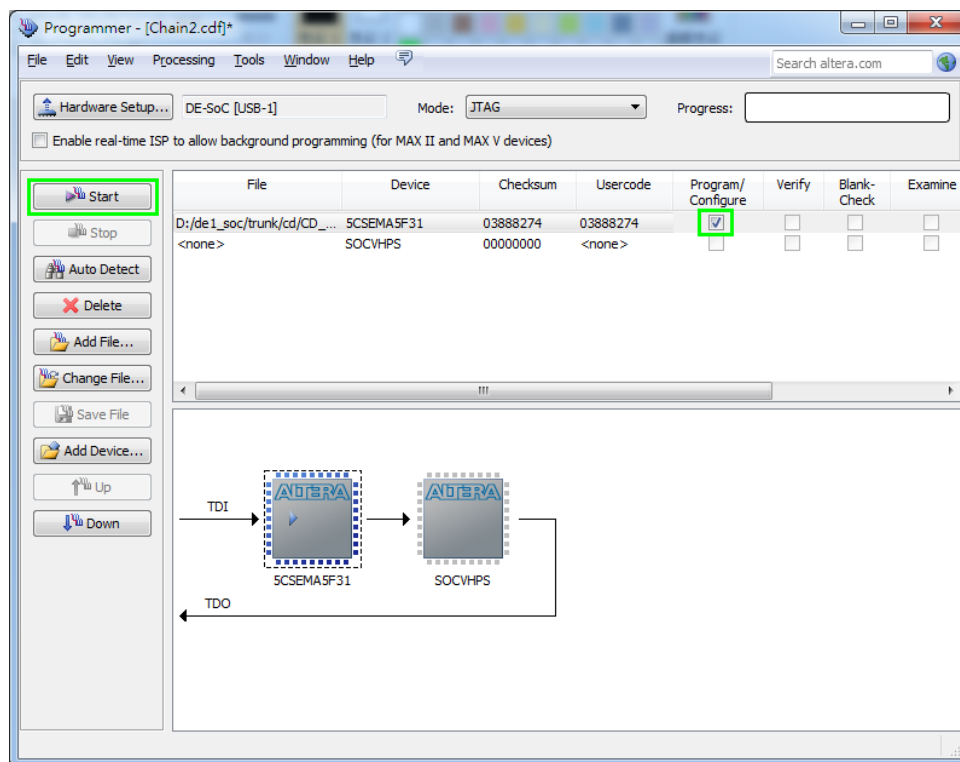

Figure 3-8 Program .sof file into the FPGA device
6. Click "Program/Configure" check box and then click "Start" button to download the .sof file into the FPGA device, as shown in **Figure 3-8**.